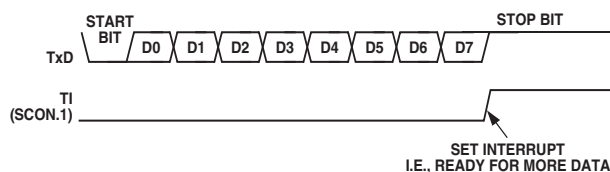

Figure 52. UART Serial Port Transmission, Mode 0
Transmission is initiated by writing to SBUF. The “write to SBUF” signal also loads a 1 (stop bit) into the ninth bit position of the transmit shift register. The data is output bit by bit until the stop bit appears on TxD and the transmit interrupt flag (TI) is automatically set as shown in Figure 52.